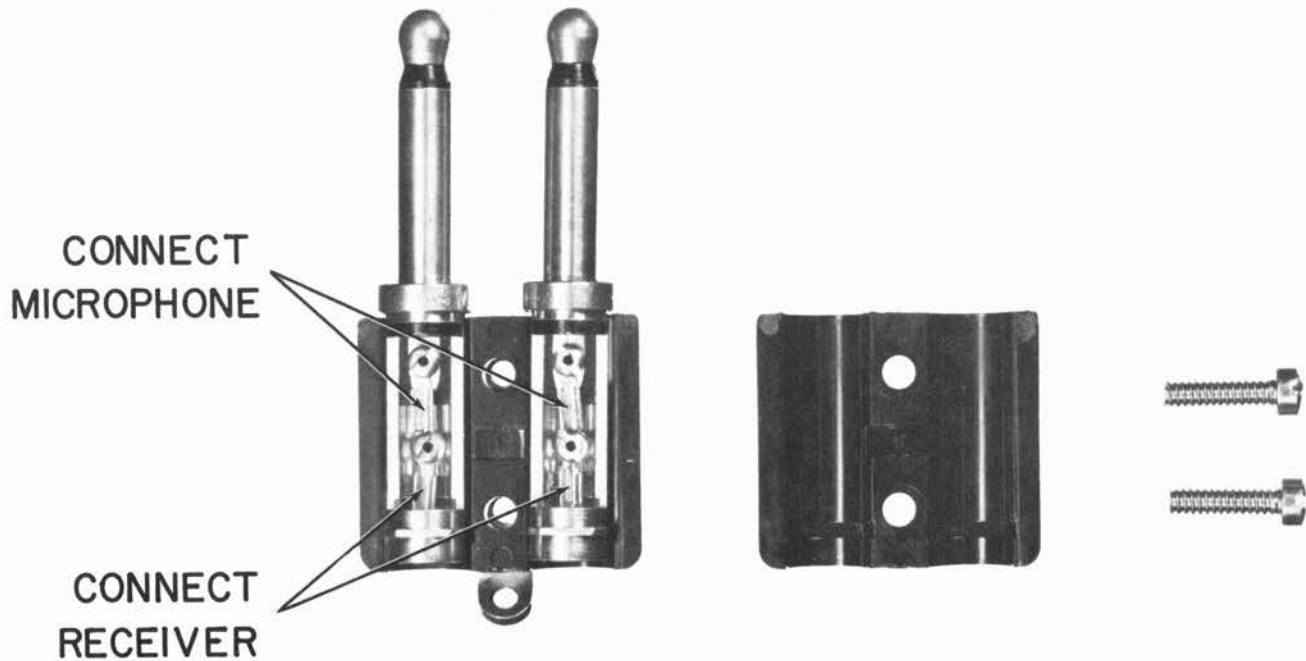

FIGURE 3-2 PHONE PLUG DISASSEMBLED
1. Connect a telephone-type handset or headset to the phone plug supplied with the Model 210DC. Connect as shown in fig. 3-2. Polarity is not critical, and one side of the microphone and receiver may be common.